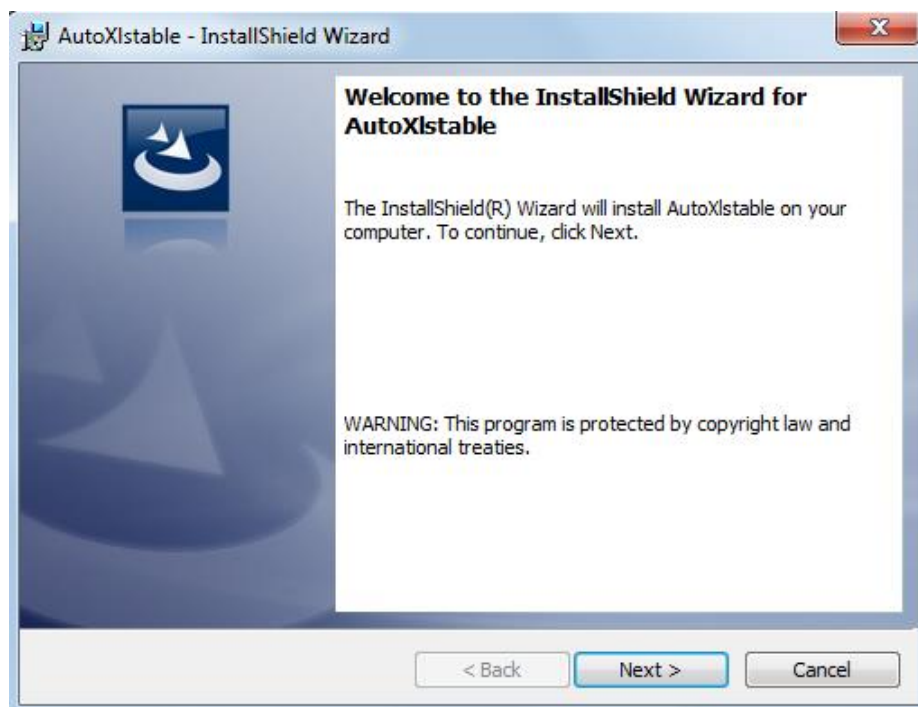

Figure 2-1
1.- Double-click the executable file downloaded and the "AutoXIsTable \_InstallShield Wizard" dialog box will pop up. Click "**Next**" to continue. See Figure 2-1.